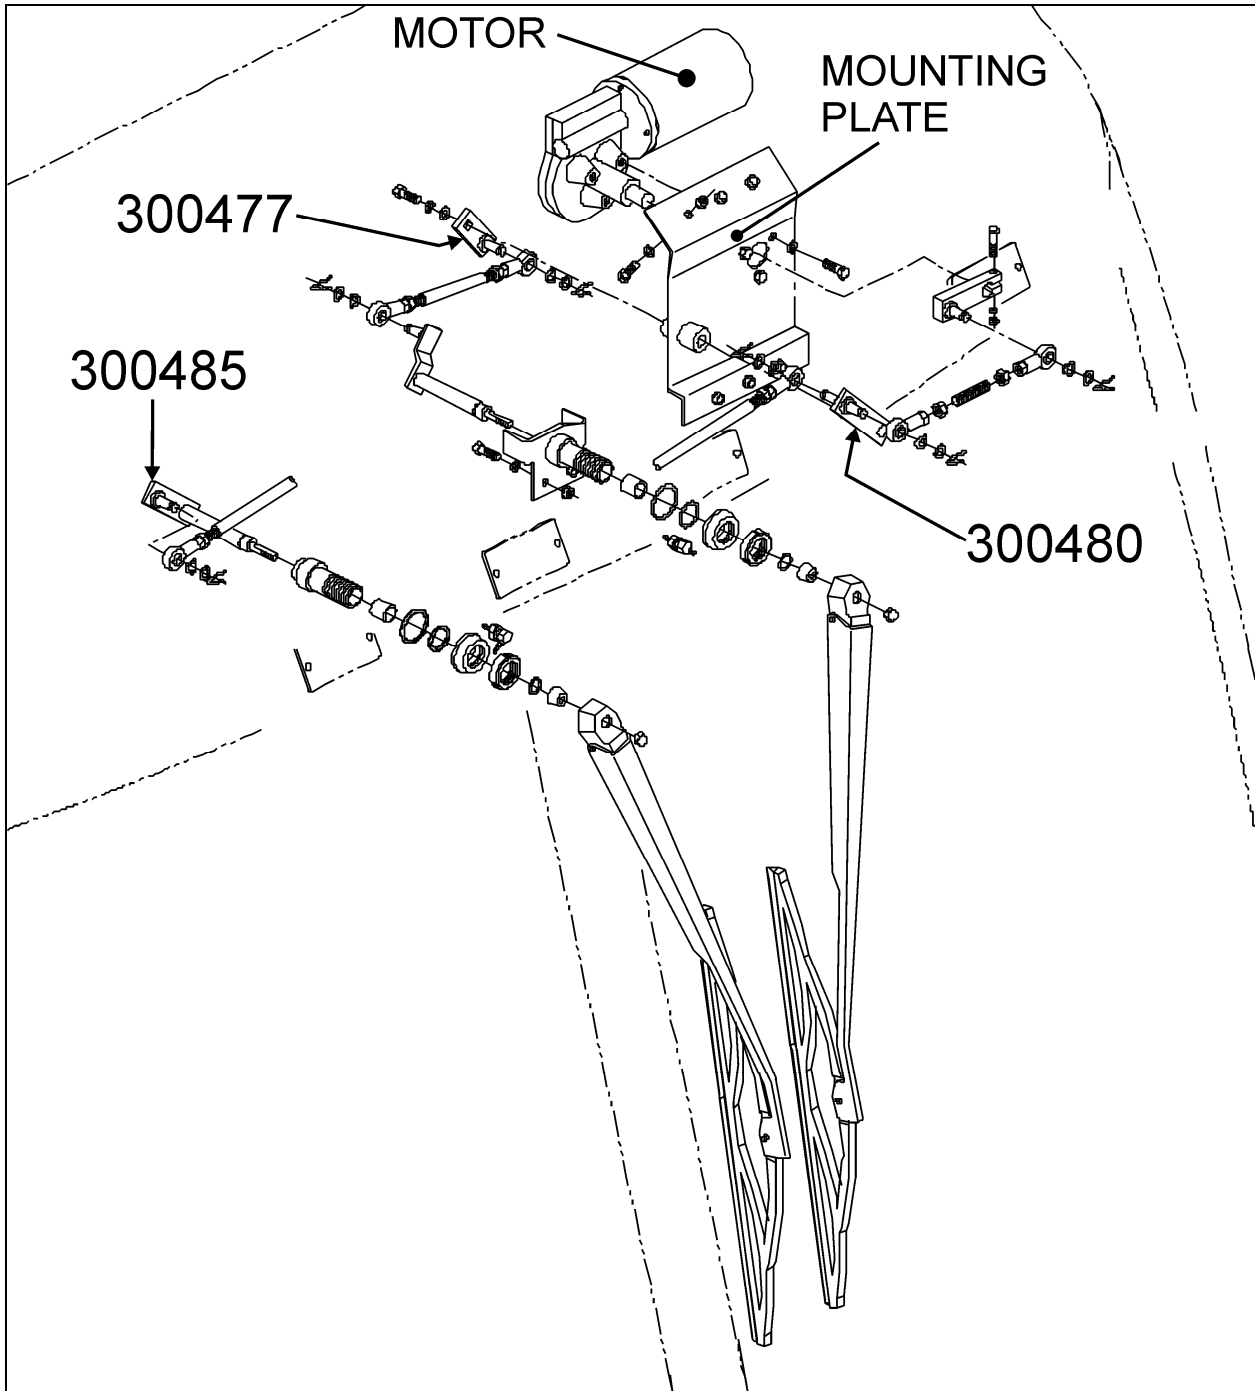

FIGURE 7
6. Using the access panel hole located above the driver's seat, remove motor mounting plate six fixing screws (Figure 7).
8. On a workbench, replace lever arm (300477) and inversion pivot (300480) (Figure 7).